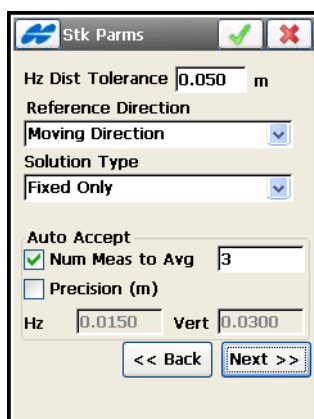

Figure 3-51. Stake Parameters
The *Stake Parameters* screen (Figure 3-51) sets parameters that are used by a job during a stakeout. These parameters can be changed with the help of the settings  button from any Stakeout screen in GPS+ mode.
- **Next** – opens the next *Stake Parameters* screen (see Figure 3-51 on page 3-50).